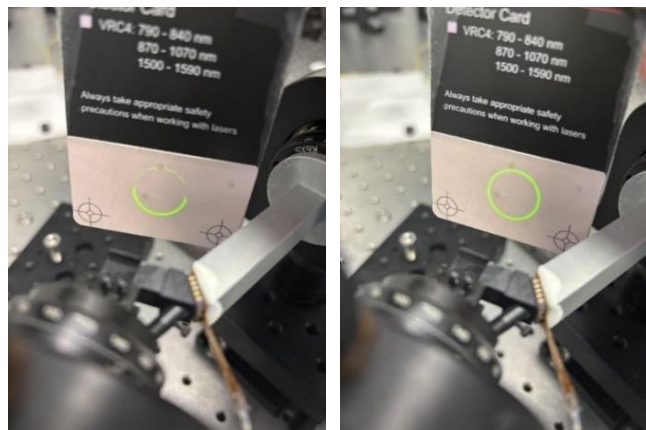

Figure 4.3 Trimmed (left) and untrimmed ring beam (right)
Step 39. Couple the laser into the fiber following the same protocol as Step 4, monitor the beam after the objective using the NIR detector card, and adjust the 6-axis kinematic mount (#31) until the outgoing laser is fully ring-shaped and not trimmed (Figure 4.3).